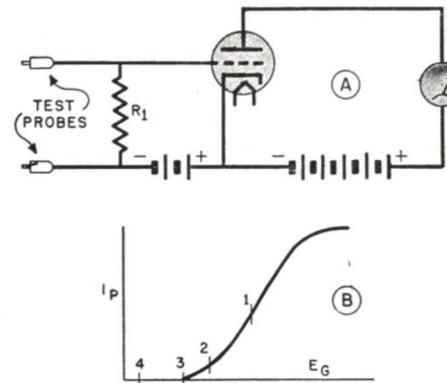

FIG. 2. An ordinary amplifier stage makes an excellent d.c. vacuum tube voltmeter, as the plate current is proportional to grid voltage.
► Of course, the simple circuit shown in Fig. 2 needs improvement. The calibration depends upon the characteristics of the particular tube used; no provisions are shown for extending the range; the device will be affected by any stray a.c. voltages; and the circuit does not make full use of the meter sensitivity. Let's see how these limitations can be cured.
Since the circuit in Fig. 2 is an amplifier, any a.c. voltage applied across resistor R_1 will cause an a.c. variation of the plate current. This will not affect the D'Arsonval meter, which indicates only the average d.c. plate current. However, if this a.c. exceeds the bias, the grid will swing positive and grid current will flow, which will cause false readings.